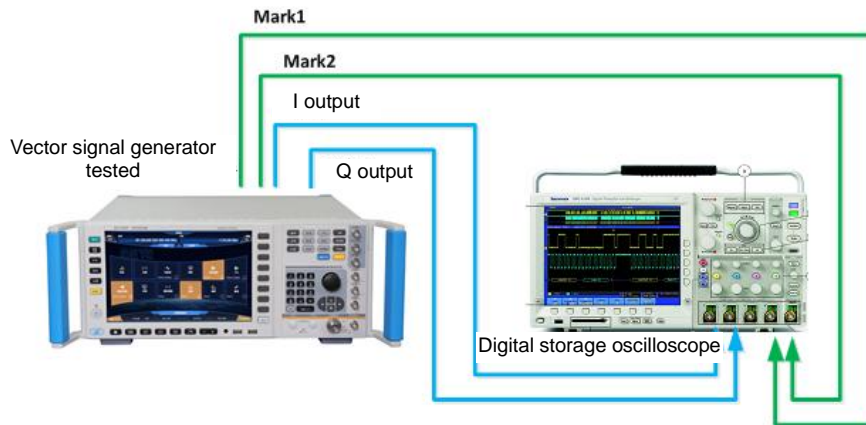

Fig. 4.20 Trigger Test
**Step 1. Connect the instrument as shown in Fig. 4.20.**
**Operation steps:****Step 1. Connect the instrument as shown in Fig. 4.20.**